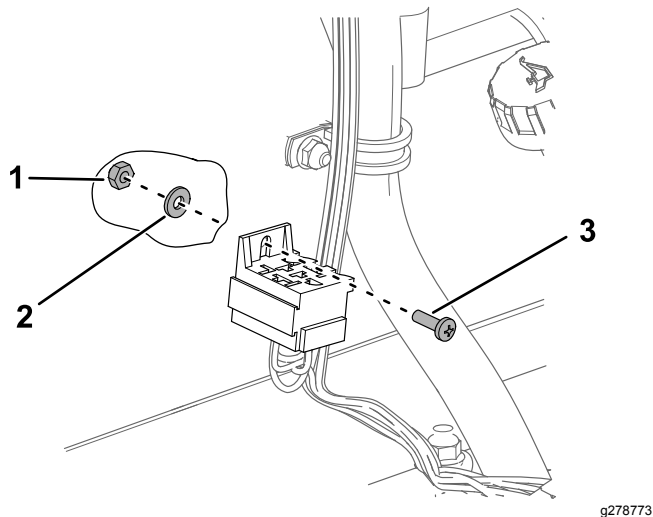

Figure 2
4. Remove the screw, washer, and nut securing the connector to the tower (Figure 2).
4. Install the connector to the tower using the screw, washer, and nut removed previously (Figure 2).